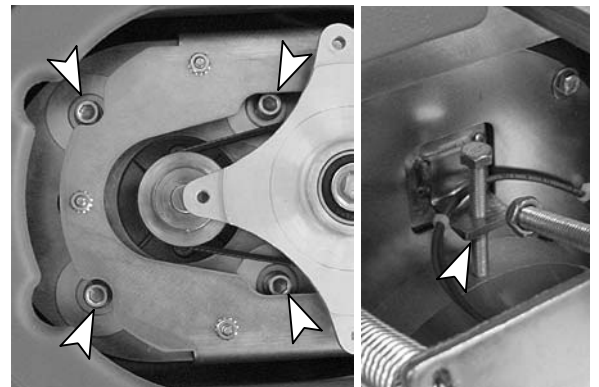

FIG. 14
2. Loosen the four motor mount screws and the tension bolt jam nut as shown (Figure 14).